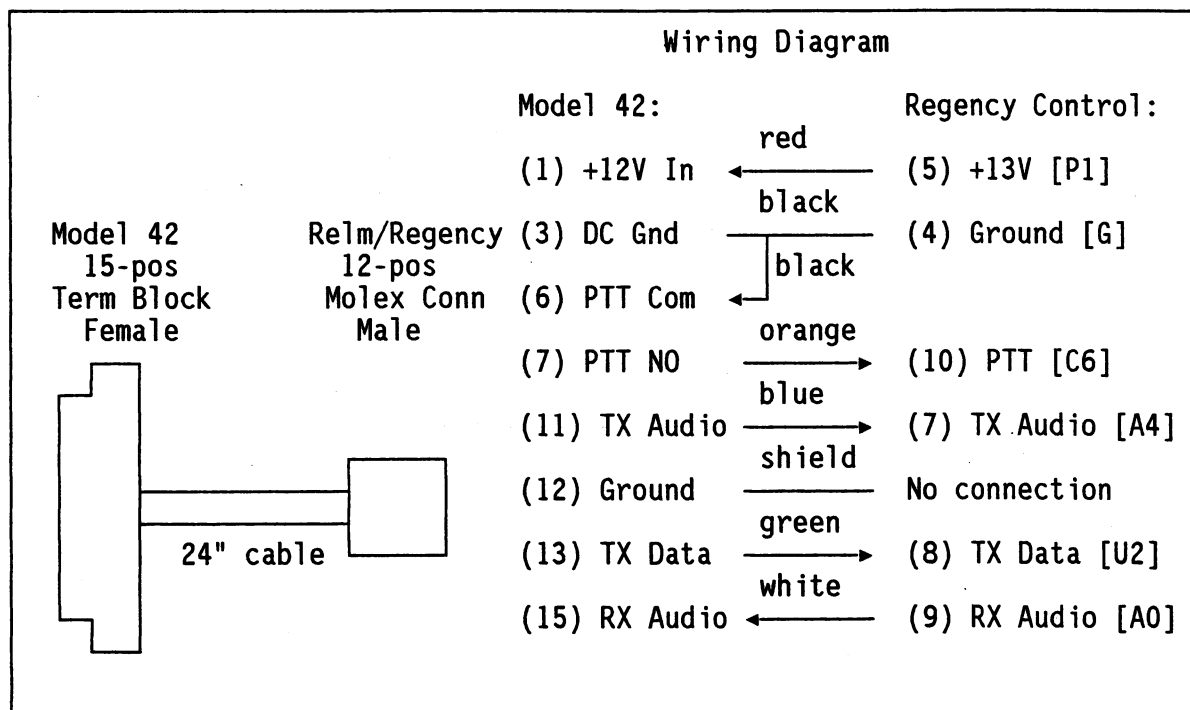

Figure 4-7. Model 42 to New Relm/Regency Repeater Cable (P/N 709-7279)
- []6. Connect the Model 42 to the Relm bulkhead connector with the NEW RELM / REGENCY repeater cable (709-7279) as shown in Figures 4-7 and 4-8.